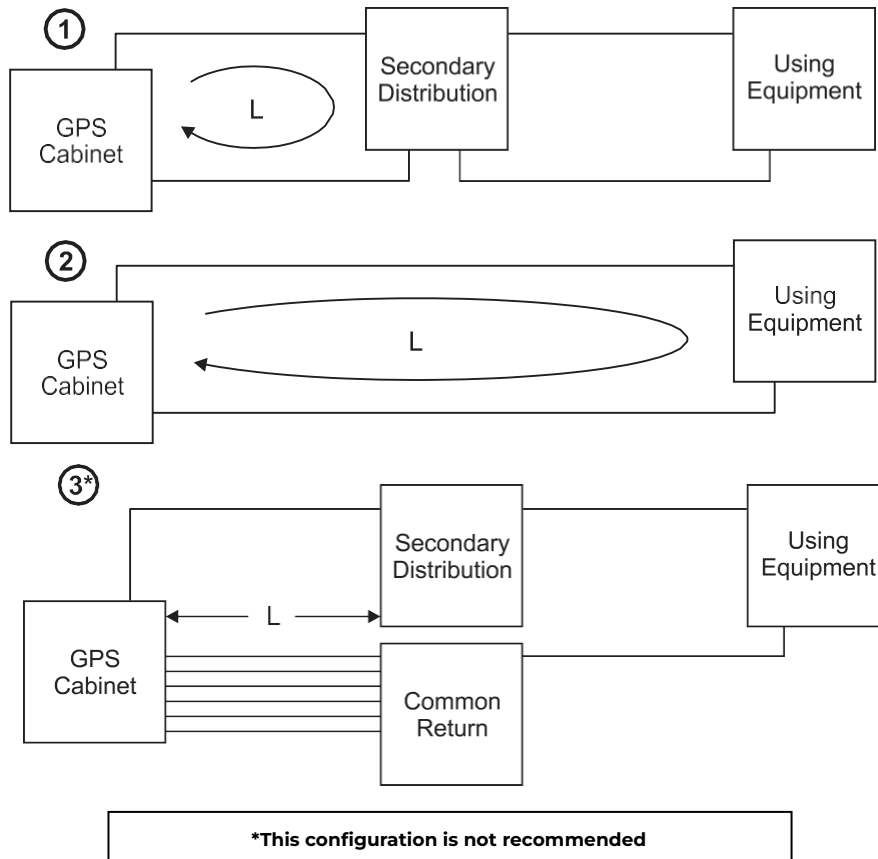

Figure 2 - 1: Short Circuit Current Calculations
- Load cables must be sized in accordance with the cable lengths shown in Table 2 - A and Figure 2 - 1 to keep interrupt currents less than the ratings of DC protectors used in distribution panels, as shown in Table 2 - B.